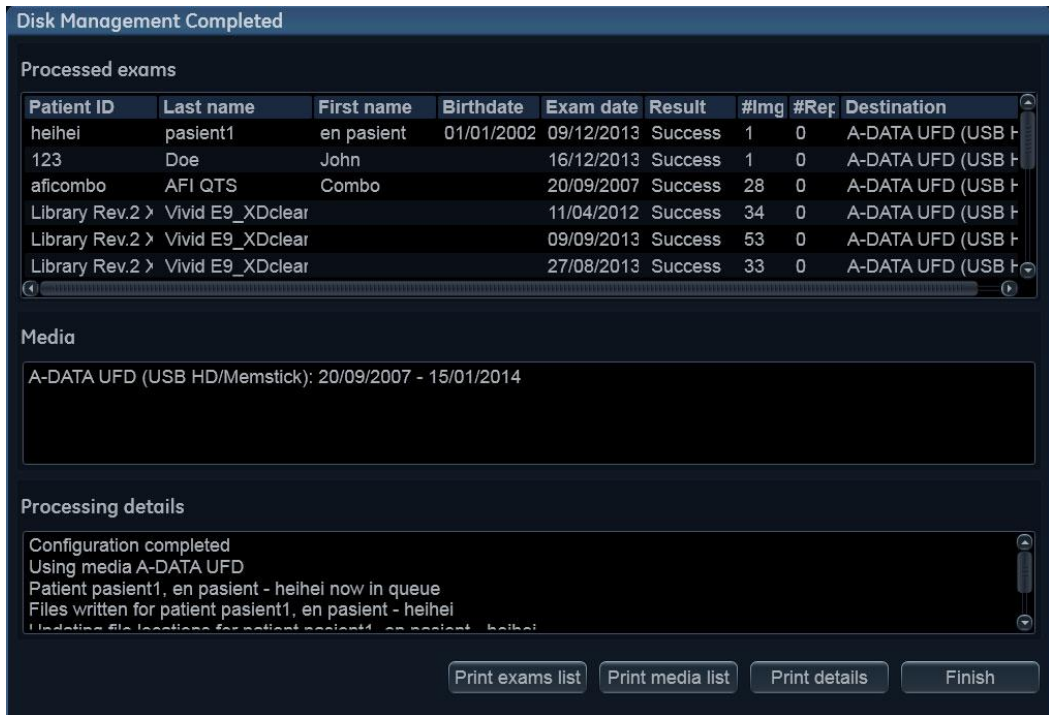

Figure 10-32. The Disk management completed window
5. When all the files are copied, the *Disk management completed* window is displayed (Figure 10-32), showing the list of processed examinations, the media used and a detailed log.